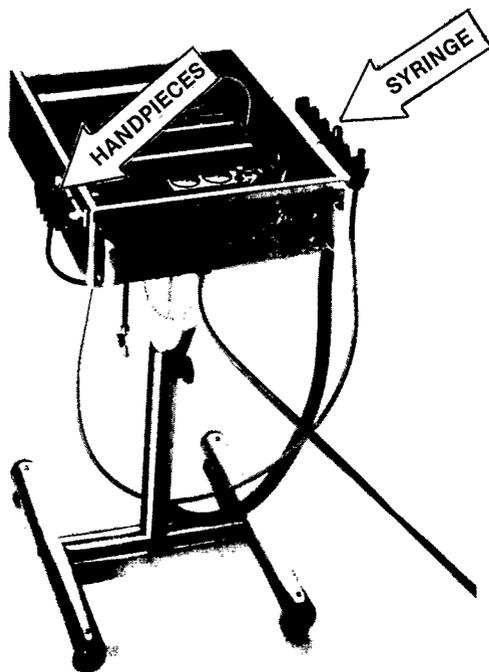

FIGURE 22
1. Remove the Syringe and handpiece tubings from their hangers and feed them back through the bottom of the unit. Lay them along the sides, as shown in Figure 22.